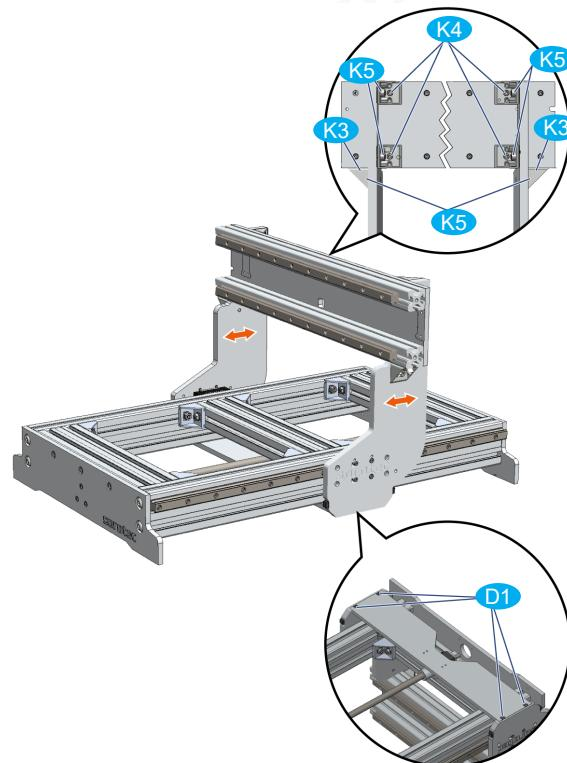

Fig. 21: Align the X axis
- Before aligning the X axis (Figure 21), check that the following screw connections are not yet tight, but are only slightly tightened: